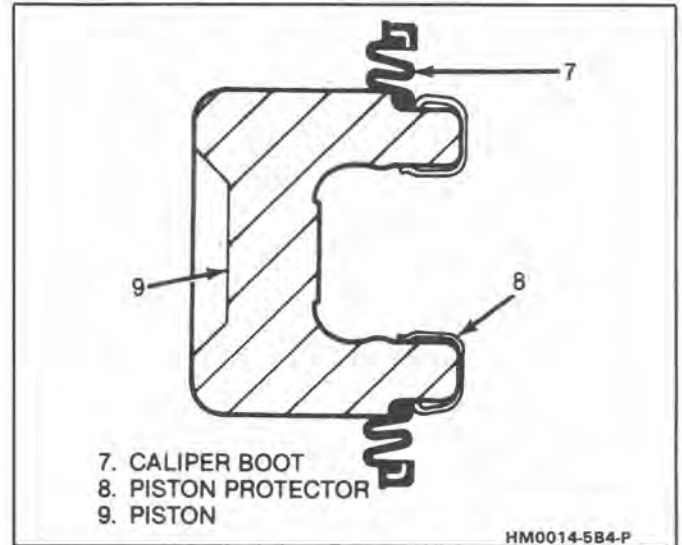

Fig. 14 Installing Boot and Protector Onto Piston
2. Lubricated new piston seal (10) into caliper bore groove.
3. Lubricated boot (7) and protector (8) onto piston (9) (Figure 14).
4. Piston (9) with boot (7) and protector (8) into bore of caliper and push to bottom of bore.